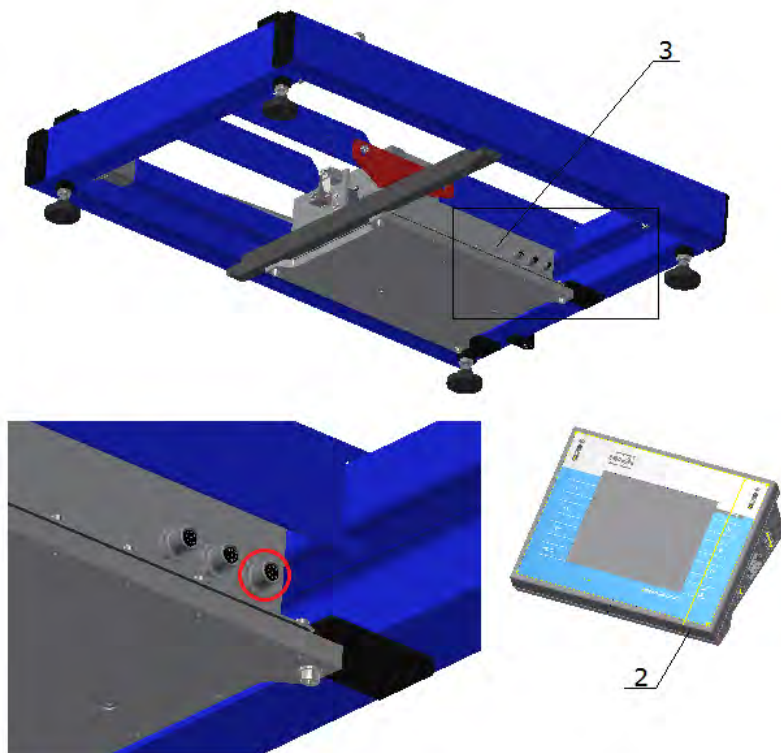

Fig.2
2. Connect the terminal (2) and the weighting module (3). (Fig.2)